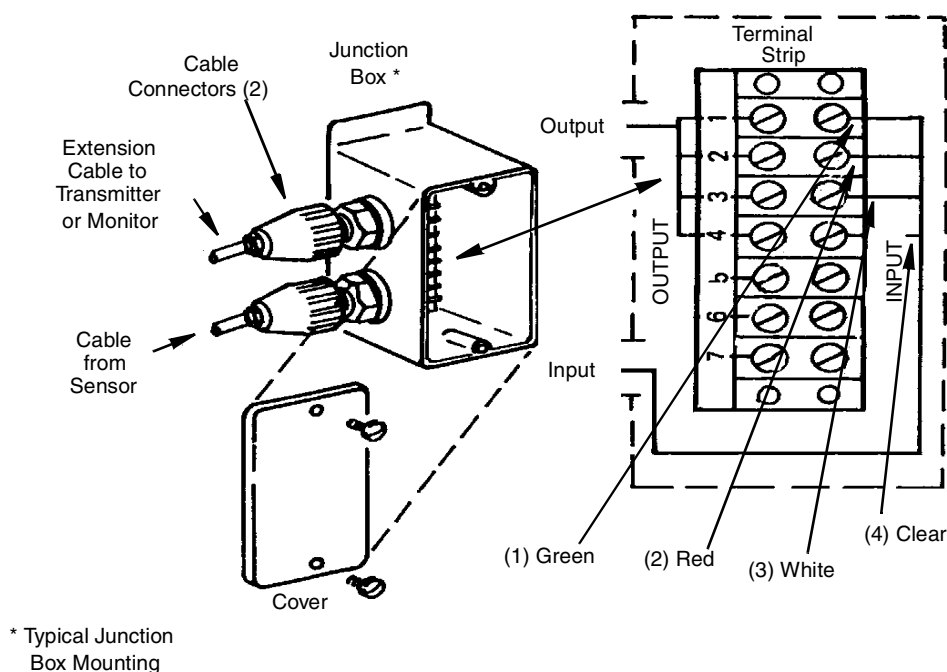

Figure 12. Junction Box Wiring
1. Remove the junction box cover and loosen the cable connectors (see Figure 12).